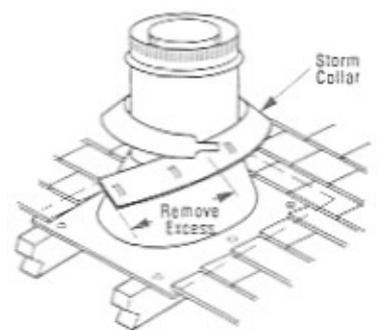

Figure 20
H. Install the storm collar, supplied with the flashing, over the vent/flashing joint. Wrap the storm collar around the vent noting which locking groove closely aligns with the tab (Figure 20). Pencil mark excess material, unwrap and trim excess with shears. Reposition collar, insert tab through both slots, pull tab so that collar is tight around vent. Slide collar down until it meets top of the flashing. Bend tab back over slot. Apply noncombustible caulking or mastic around circumference of the joint and the tab slot area to provide a water tight seal.